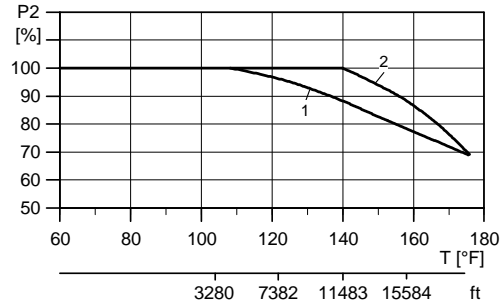

Fig. 7 Relationship between motor output ( $P_2$ ) and ambient temperature/altitude
**Example:** From fig. 7 it appears that  $P_2$  must be reduced to 88 % when a pump with a NEMA Premium efficiency, ML motor is installed 15,584 feet above sea level. At an ambient temperature of 167 °F,  $P_2$  of an energy efficient motor must be reduced to 74 % of rated output.